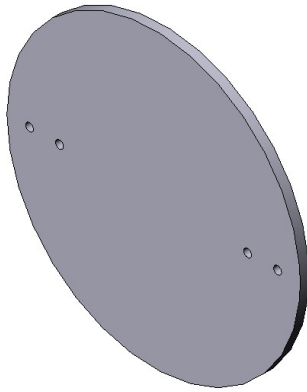
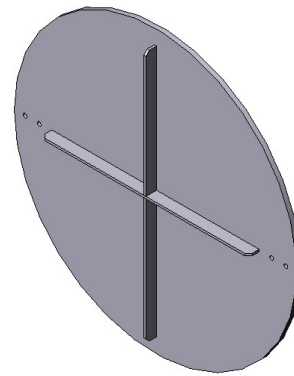

Fig. 11
Fig. 12
The swing check in these damper butterflies comprises a circular disc with bushing on each end (fig. 11) where the shafts are introduced. The swing check turns on these shafts and is operated by the driving shaft, joined using pins. The swing check is designed in accordance with the dimension of the conduit and the work pressure required. When the situation so requires, the disc can be fitted with ribs and reinforcements to guarantee the necessary robustness (fig. 12).
As mentioned above, the design varies from the standard whenever a valve with 100% watertight integrity is required, most notably through the inclusion of a dual swing check, as shown in fig. 11.
- **Seat 1:** In this type of seal there is no contact between the body and the swing check (fig. 12). The estimated leak is 3% of the pipe flow. There is a specific margin between the interior diameter of the body and the exterior diameter of the swing check, in order to ensure the valve can open and close without any problems. We therefore calculate that this type of seal achieves watertight integrity of 97%.